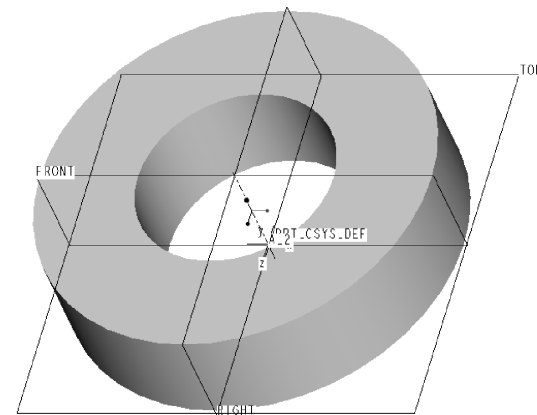

Fig. 2.14.
13. Accept the feature creation after previewing.	VIEW → ORIENTATION → STANDARD ORIENTATION →  → Refer Fig. 2.14.